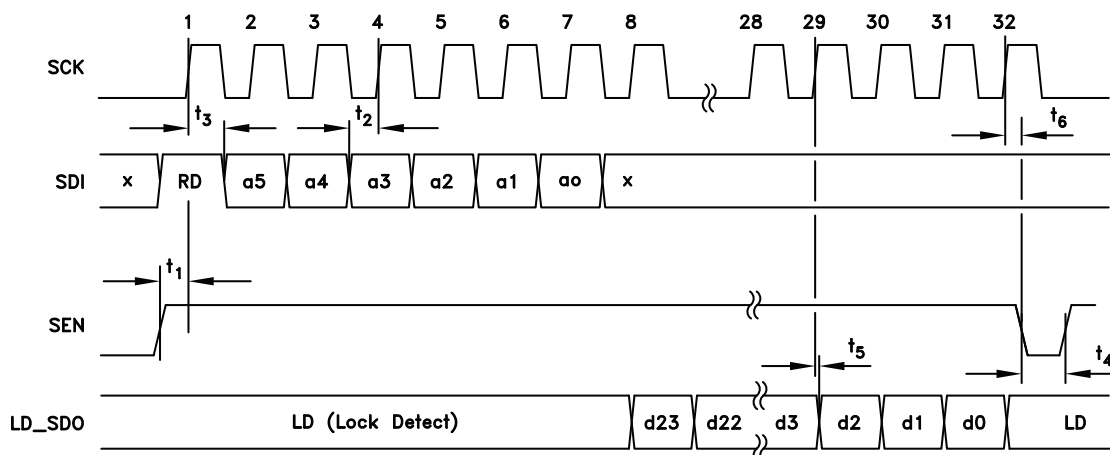

Figure 17. HMC Mode Serial Port Timing Diagram - READ
A typical HMC Mode READ cycle is shown in Figure 17.
- a. The Master (host) asserts both SEN (Serial Port Enable) and SDI to indicate a READ cycle, followed by a rising edge SCK. Note: The Lock Detect (LD) function is usually multiplexed onto the LD\_SDO pin. It is suggested that LD only be considered valid when SEN is low. In fact LD will not toggle until the first active data bit toggles on LD\_SDO, and will be restored immediately after the trailing edge of the LSB of serial data out as shown in Figure 17.
- b. The slave (synthesizer) reads SDI on the 1st rising edge of SCK after SEN. SDI high initiates the READ cycle (RD)